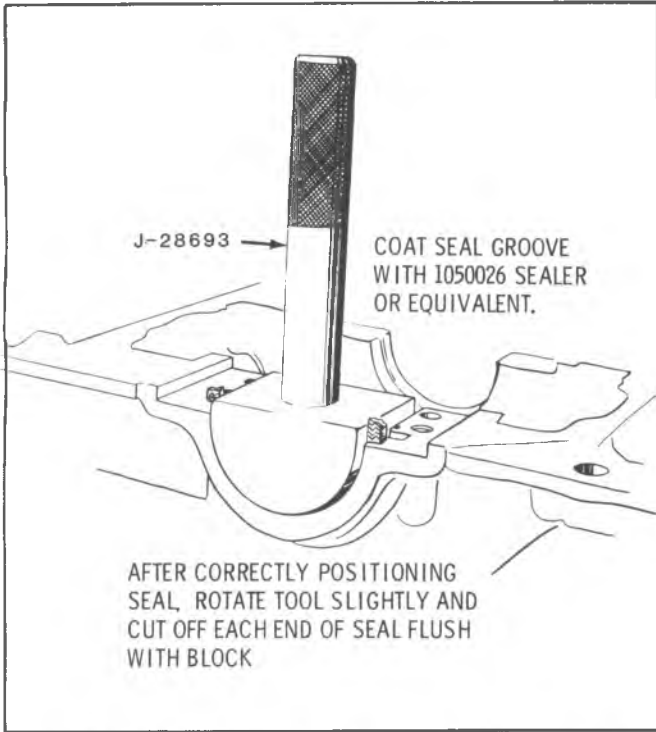

Fig. 6A6-92—Installing Rear Main Oil Seal—Upper Half
3. Install a new rear main bearing seal. (Fig. 6A6-92). Rear bearing must be removed to replace seal.
5. With a block of wood (Fig. 6A6-93) bump shaft in each direction to align thrust flanges of center main bearing. After bumping shaft in each direction, wedge the shaft to the front and hold it while torquing #3 cap bolts.